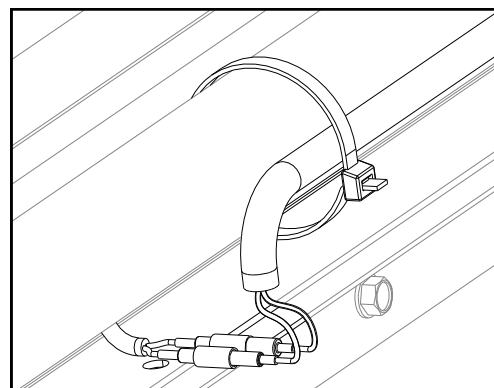

Fig. 3.1
3.1 Pull wire up to rear work light and plug the bullet connectors into the rear work light. (See Figure 3.1)